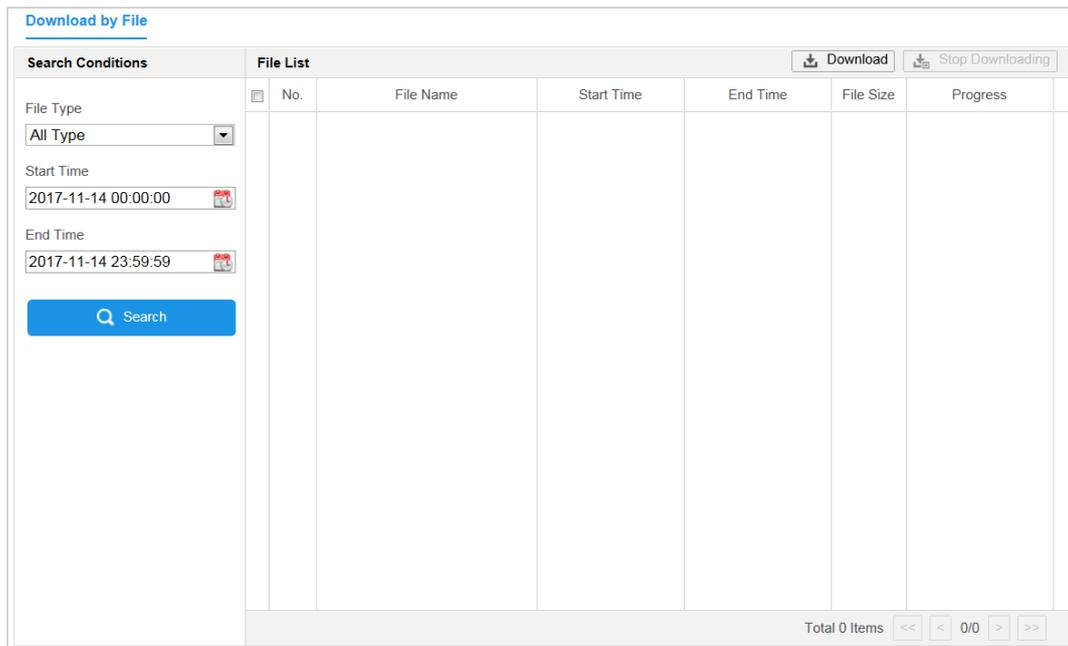

Figure 4-15 Video Downloading interface
1. Click  on the playback interface. The pop-up menu is shown in Figure 4-15.